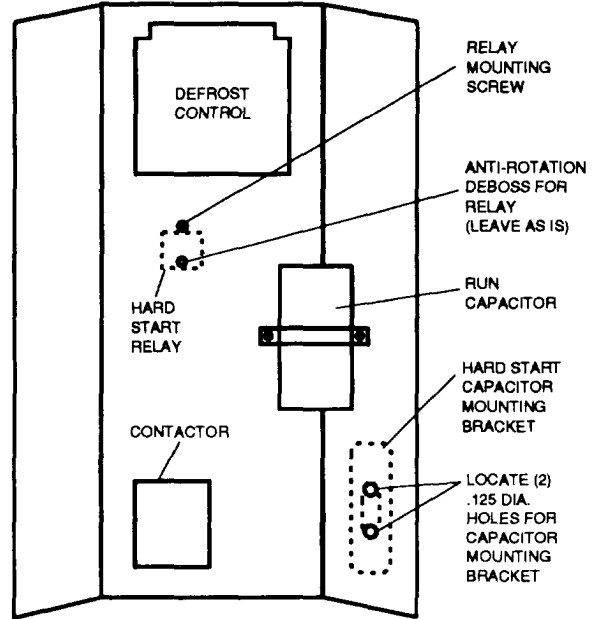

FIGURE 3 - HEAT PUMP CONTROL BOX
4. **START RELAY MOUNTING-** See Figure 3. Locate the screw below the defrost control and the deboss under this screw. Remove and discard the screw. Mount the start relay using the #6 x 3/8" Phillips head screw included with this kit.